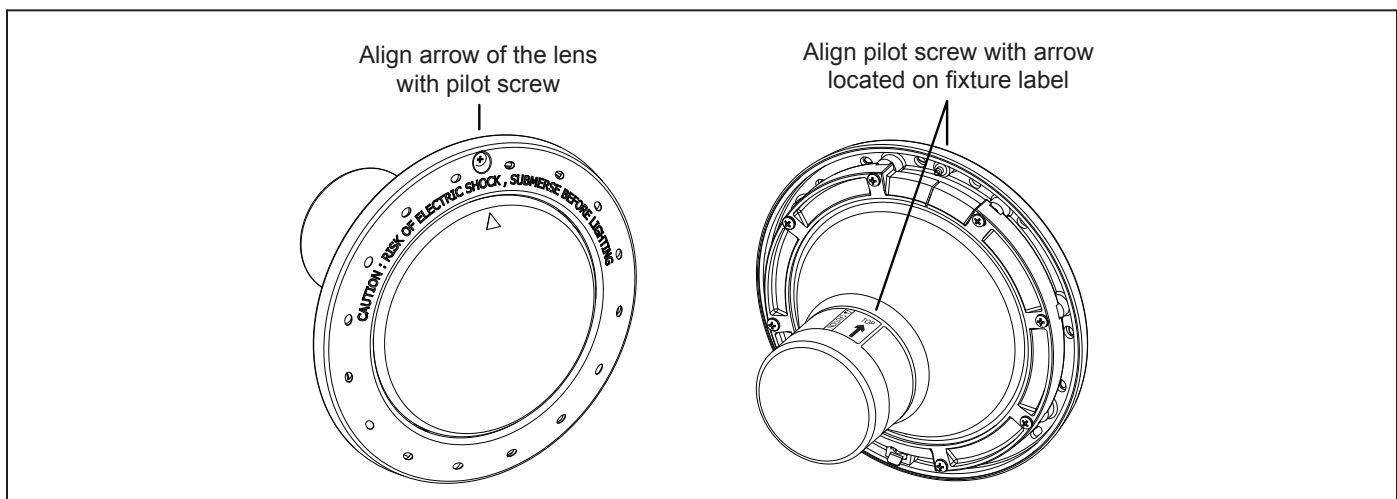

Figure 8. Alignment of the Lens, Face Ring, Housing and Clamps for Pool White Lights
- c. Position the lens and gasket on the fixture. Place the face ring and the top clamp over the lens and align the pilot screw with the small arrow mark on the face of the lens. Note that the small arrow mark on the face of the lens and the pilot screw of the face ring must be aligned with the arrow located on fixture label that reads, "Arrow on this label must line up with the pilot screw on the Face Ring". See Figure 8.
- e. Spread the bottom clamp over the electrical cord and slide it onto the back of fixture to the top clamp. See Figure 8.